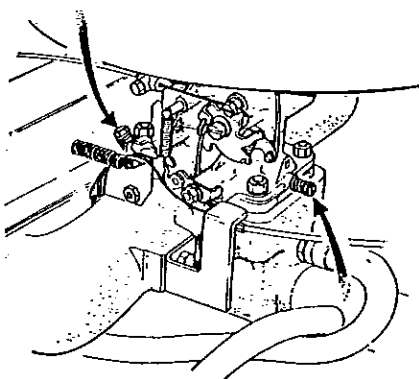

Fig. 31. Carburettor Adjustment Screws
1. When the engine is at normal operating temperature adjust the slow running screw (see fig 31) to obtain a satisfactory idling speed.